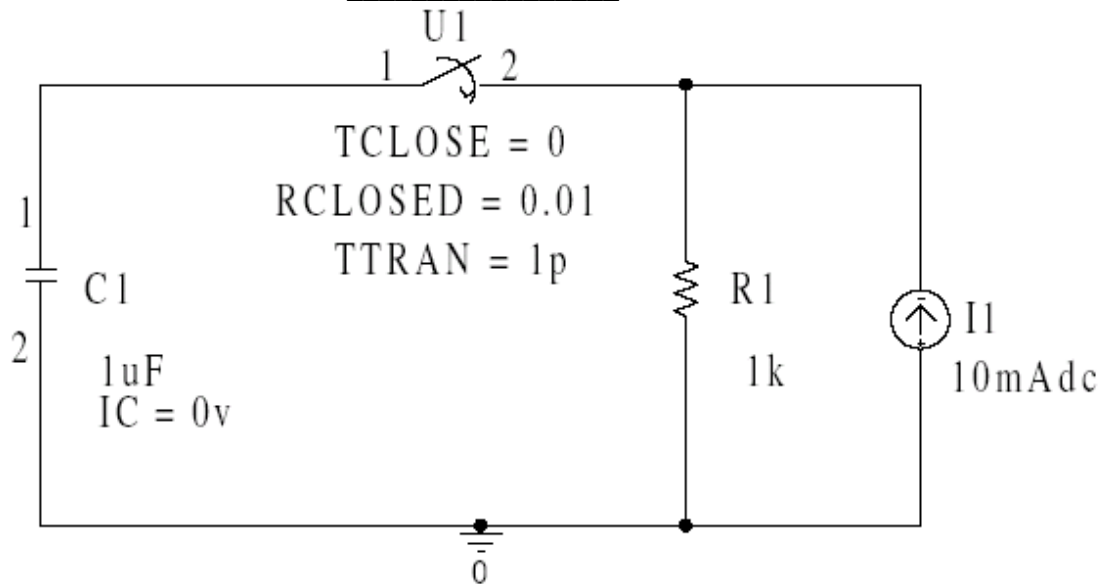

FIGURE 4.2
2.1.1. Construct the circuit shown in Figure 4.2 for both netlist and schematic. Set the initial voltage across the capacitor to zero.